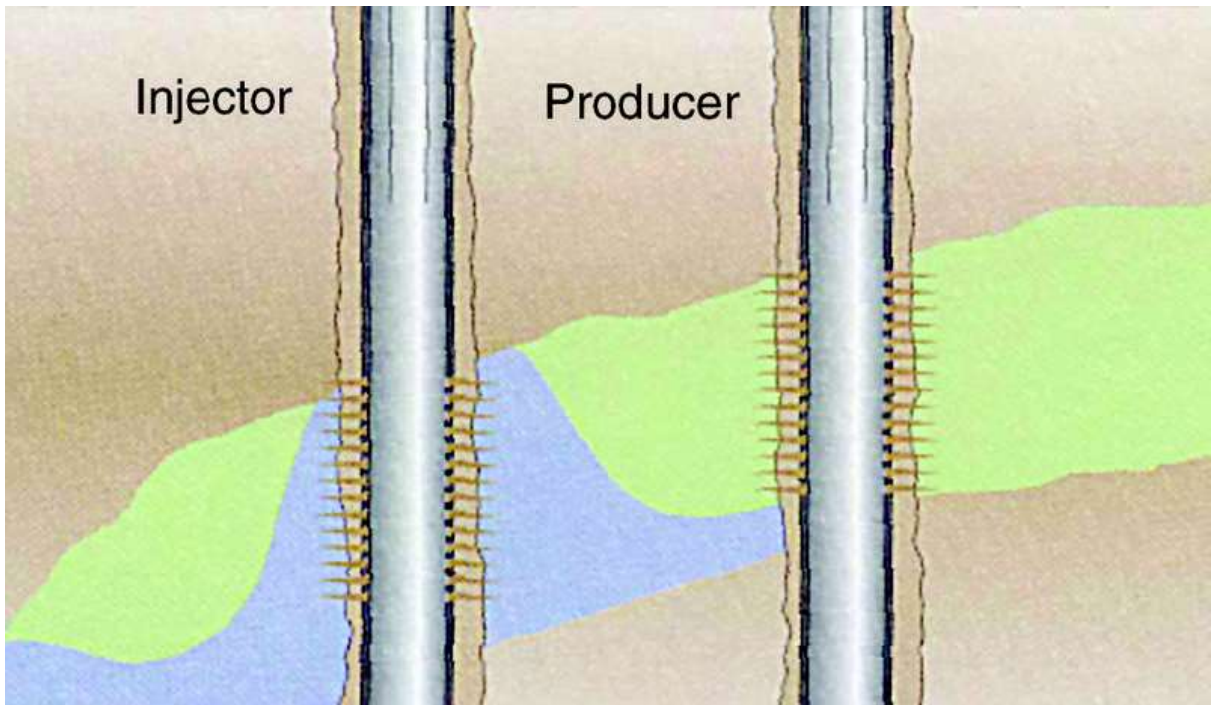

Fig. 2 – Gravity segregated layer
- Gravity-segregated layer. In a thick reservoir layer with high-vertical permeability, water, either from an aquifer or injector, slumps downward in the permeable formation and sweeps only the lower part of the reservoir (**fig. 2**).